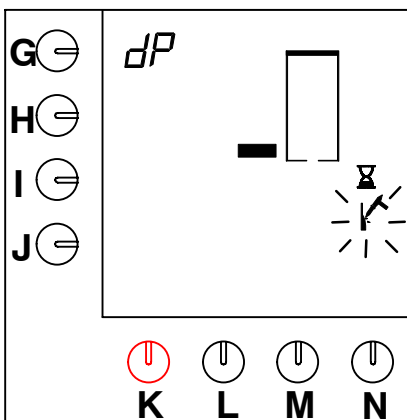

Fig. 25 Pause for interaction of the descaler
- When the water is hot, a sandglass and a flashing hammer symbol appears on the display (fig. 25) . A 5 minutes waiting time follows to let the renegite do its job.